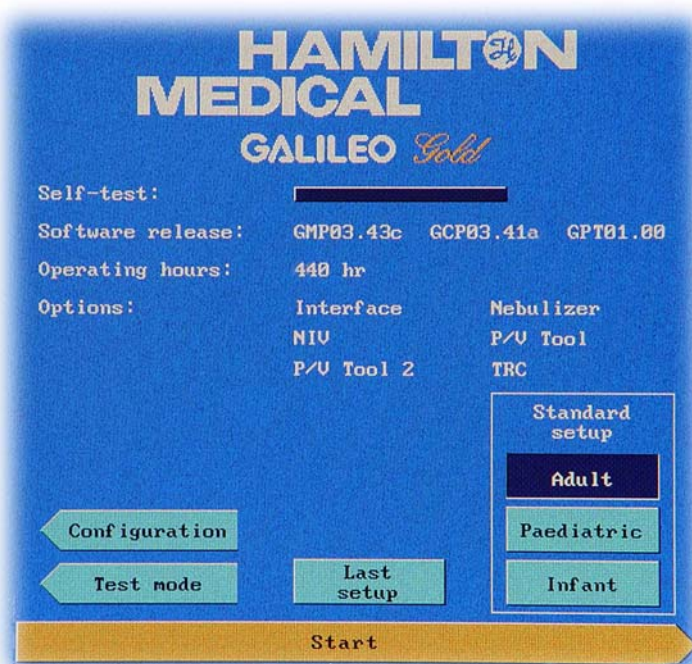

Figure B-7. The GALILEO Gold setup screen (you might not have the Gold version of GALILEO)
1. Switch on the GALILEO, while at the same time holding down both the **MANUAL** and the **100% O2** keys for 5 seconds. Wait for the HAMILTON MEDICAL setup screen to display. (Figure B-7 shows the GALILEO Gold setup screen. Your screen must be very similar or identical to this.)
- c. Activate **Close** on the **Interface** menu, and then again on the **Configuration** menu, to return to the HAMILTON MEDICAL setup screen. (Figure B-7.)